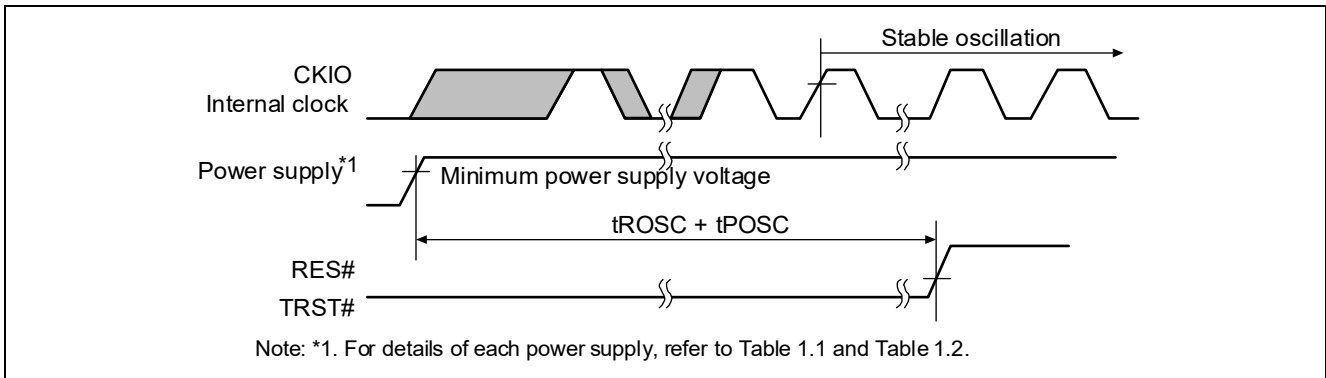

Figure 2.5 Power on oscillation settling time
*3. For details, refer to Table 2.2 and Figure 2.5.
The power on oscillation settling time is stipulated as the time from when the power supply voltage rises above the minimum value until the RES# pin has exceeded the VIL Max. Table 2.2 shows the timing requirements of power on oscillation settling time and Figure 2.5 shows the power on oscillation settling time.